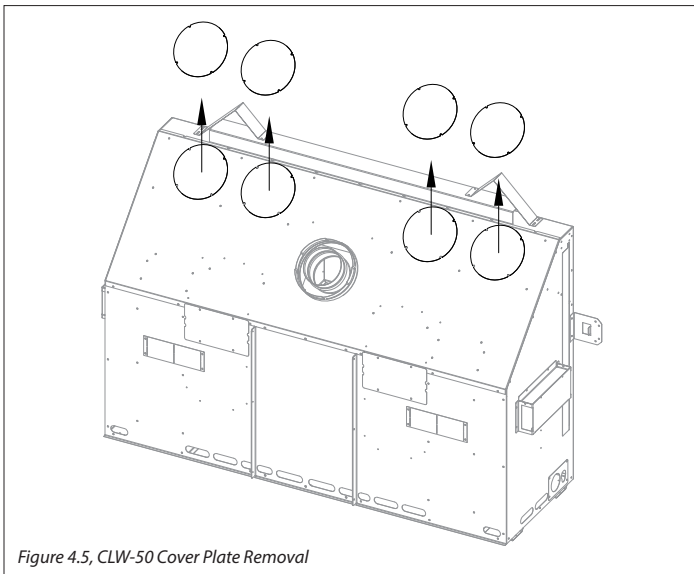

Figure 4.5, CLW-50 Cover Plate Removal
2. **CLW-50:** Remove (4) cover plates on top of the appliance (4 screws each). See Figure 4.5.